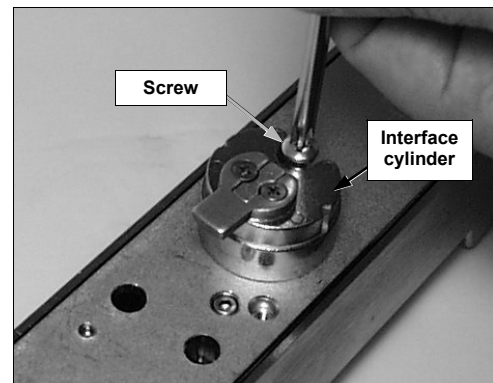

Fig. 3: Remove old interface cylinder (if present). Install the new cylinder and tighten the screw.
3. **Remove the existing cylinder (if present). Install the new cylinder onto rear of lock.** Ensure the tail-piece at the rear of the lock enters the slot of the interface cylinder. Tighten the set screw as shown in Fig. 3 below.